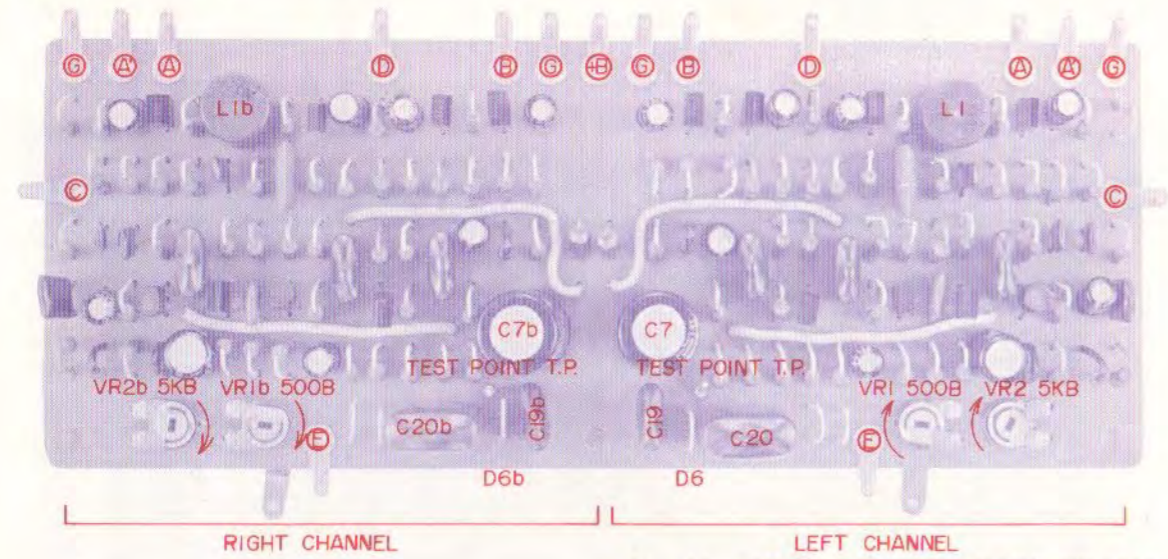

Fig. 11 DOLBY N.R. P.C. BOARD TD-5310 (Face)
1. RECORDING DOLBY N.R. CIRCUIT ADJUSTMENT (Refer to Fig. 11)
- 1) Turn semi-fixed resistors VR1 500B and VR2 5 KB fully clockwise (Fig. 11)
- 2) Ground test points T.P (Fig. 11)
- 4) Supply a 5 kHz, -10 dBm signal which has been verified with a frequency counter from the audio frequency oscillator and confirm that at this time the indication of the high-sensitivity V.T.V.M. connected to terminal (B) is 0 dBm.
- 5) Reduce the output of the audio frequency oscillator by -30.5 dB from the condition outlined in item 1-4) (5 kHz, -40.5 dB) and at this time confirm that the indication of the high-sensitivity V.T.V.M. connected to terminal (B) is -30.5 dB.
- 6) Set Dolby Switch to ON position and adjust semi-fixed resistor VR1 500B to obtain a -20.5 dBm indication on the high-sensitivity V.T.V.M. connected terminal (B).
- 7) Disconnect ground wire from test point T.P (grounded in item 1-2) and at this time adjust semi-fixed resistor VR2 5 kB to obtain a -22.5 dBm indication on the high-sensitivity V.T.V.M. connected to terminal (B).